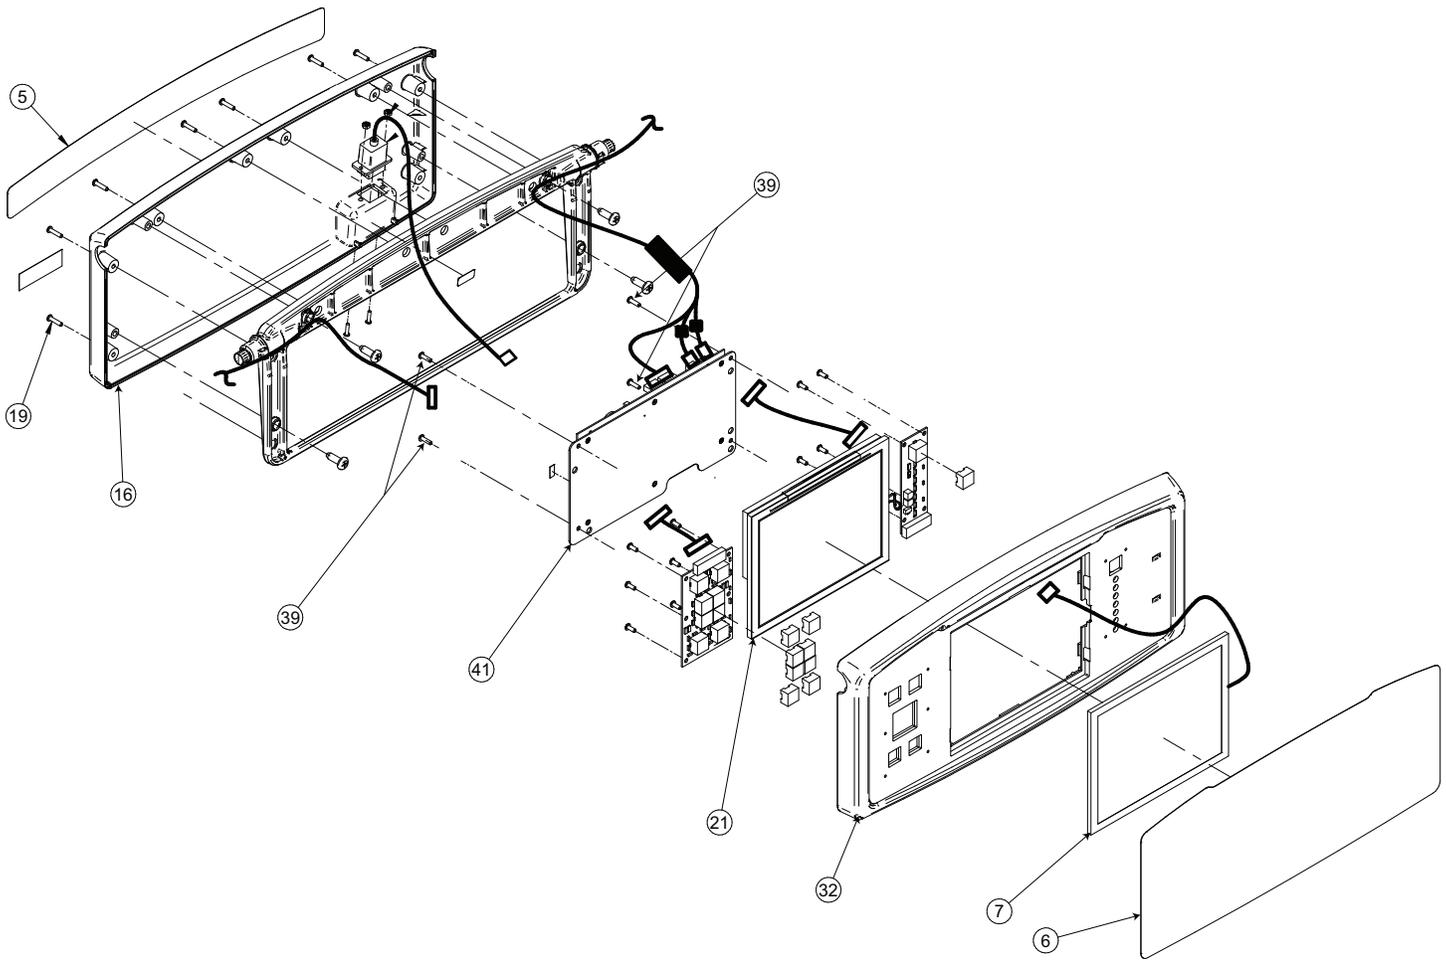

Figure 61 – Footboard assembly
3. Using a small slotted screwdriver, remove the fascia back foot control label (5) (Figure 61).
4. Using a #2 Phillips screwdriver, remove the six screws (19) that secure the front nurse panel (32) to the rear footboard control (16) (Figure 61). Save the screws.
6. Using a #2 Phillips short screwdriver, remove the two screws (19) from the bottom of the front nurse panel (32) (Figure 61). Save the screws.
17. Using a #2 Phillips screwdriver, remove the four screws (39) that secure the touch board assembly (41) to the display housing (Figure 61). Save the screws.
19. Using a small slotted screwdriver, separate the locking tabs from the LCD display (21). Remove and discard the display.
20. Using a small slotted screwdriver, remove the foot control overlay (6). Discard the foot control overlay. This will need to be replaced with the new overlay.
21. Using a small slotted screwdriver, remove the touch screen (7). Discard the touch screen.